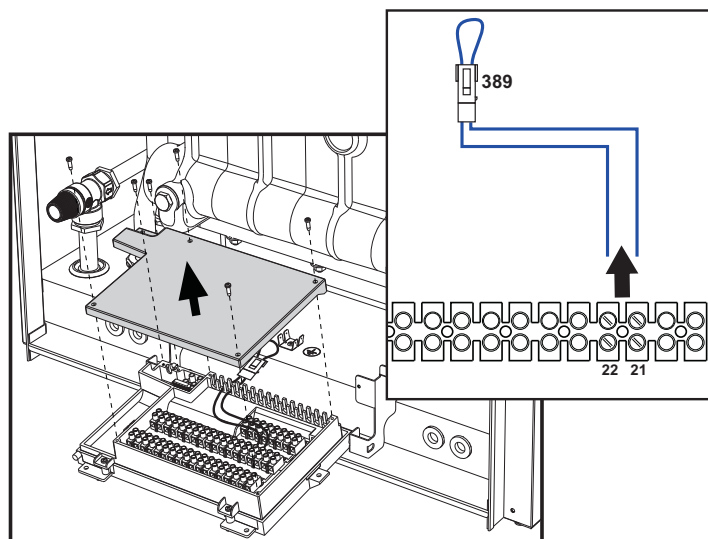

fig. 94
ATTENTION: Before connecting the room thermostat or the remote timer control, remove the connection (ref. 389 fig. 94) from terminals 21 and 22 on the terminal block.